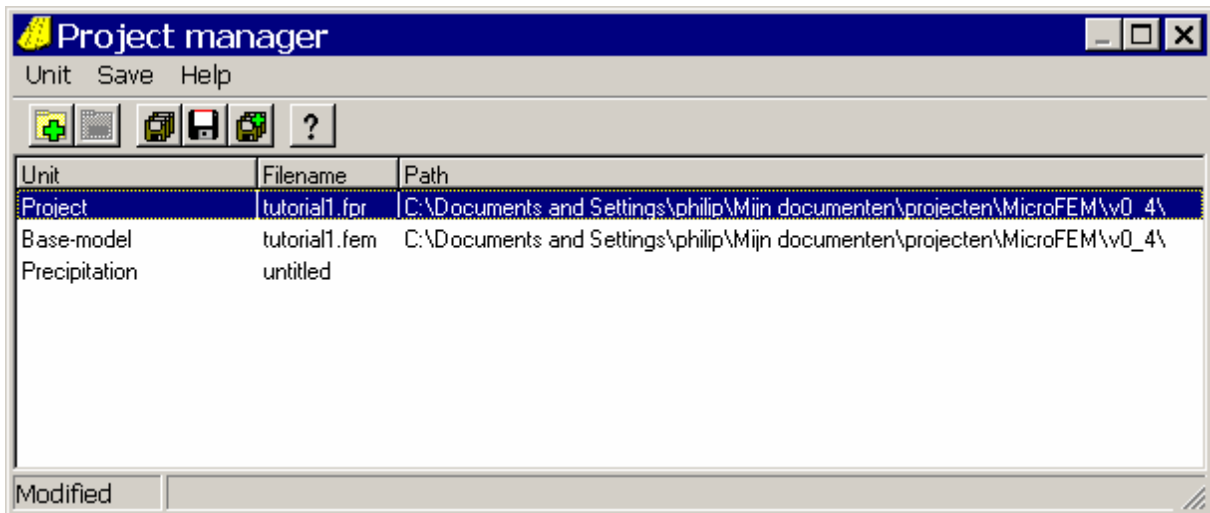

Figure 21: Project manager pop-up window (2)
4. Click on the OK-button. The Project Manager main window reappears. Just check here that indeed a so-called "unit" has been added to the model project. We will have a closer look at the Project Manager later. For now, just close the Project Manager main window (which will now look like Figure 21):
1. In the main menu, select Project → Project manager. In the pop-up window (Figure 21), click on the -button and in the next window (Figure 20) select "Thickness" and then select "New" and click the "OK"-button.